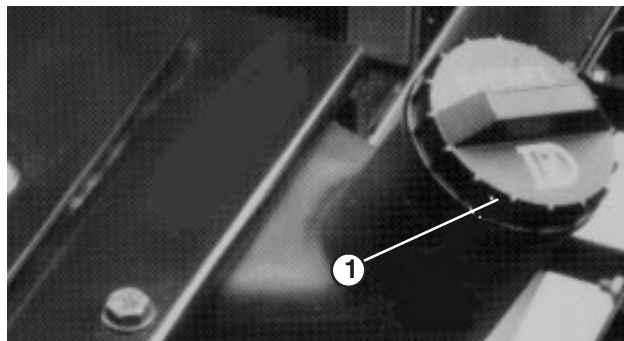

Figure 18
2. Remove cap from the fuel tank (Fig. 18).